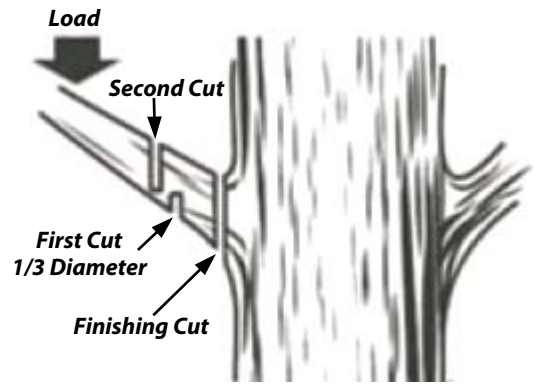

Figure 10
- Under cut the branch 1/3 through for your first cut. Your second cut should over cut to drop the branch off (**Figure 10**). Be prepared to balance the weight of the Pole Saw tool when the limb falls.